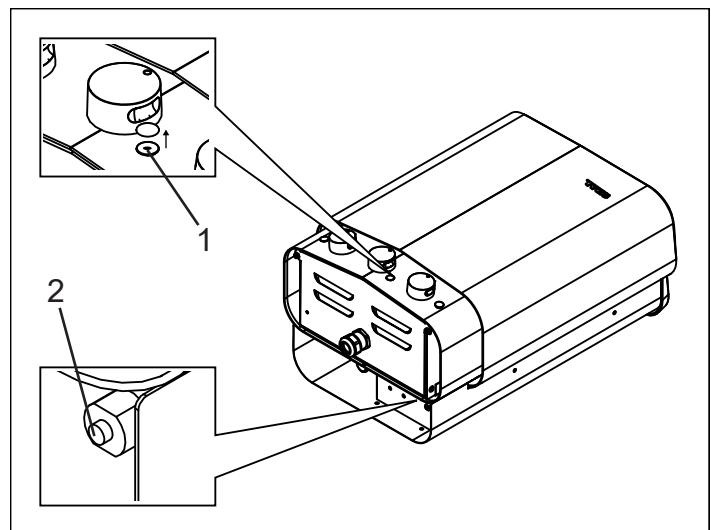

Figure 8: Resetting the temperature cut-out devices
• **Heater** - The temperature cut-out in the heater is designed to protect the components, tubular elements and woodwork in the sauna from overheating. On the front of the heater, under a black cover plug to the right of the thermostat dial, is a red reset button which must be pressed in (see Figure 8). If the cut-out has activated, the button will feel stiff and will click when reset. If the cut-out has not activated and after resetting, the button will feel springy.
• **Water reservoir** - The temperature cut-out in the reservoir is designed to protect the heater element from boiling dry. There is a red reset button under the heater which must be pressed in (see Figure 8). If the cut-out has activated, the button will feel stiff and will click when reset. If the cut-out has not activated and after resetting, the button will feel springy.